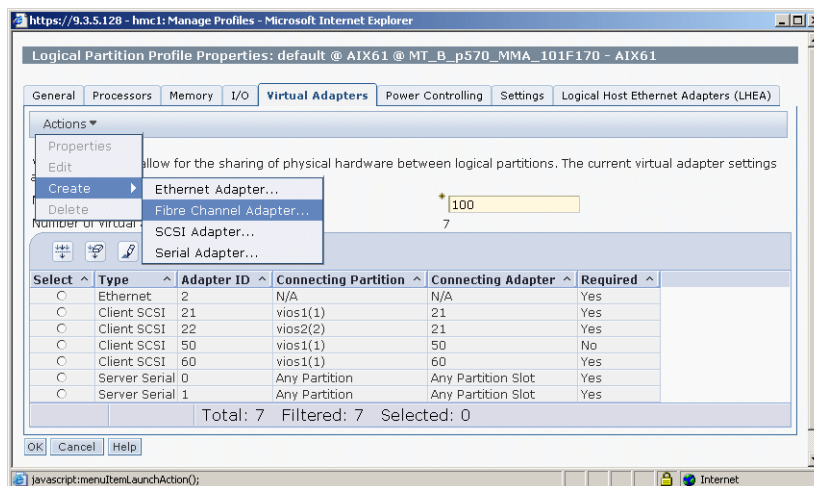

Figure 2-23 Create Fibre Channel client adapter
- b. To create a virtual Fibre Channel client adapter select the profile, click on **Actions** → **Edit**, expand Virtual Adapters tab, click on **Actions** → **Create** → **Fibre Channel Adapter** as shown in Figure 2-23.